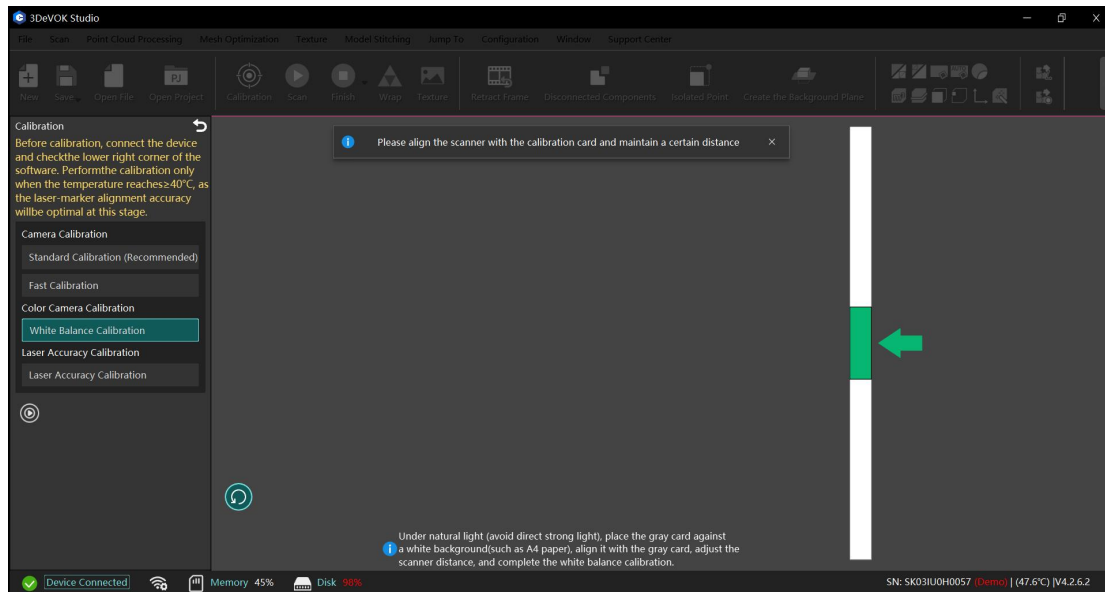

Figure 6-4 White Balance Calibration
2. Select the "White Balance Calibration " function on the left, and process the calibration following the on-screen instructions, as shown in Figure 6-4.